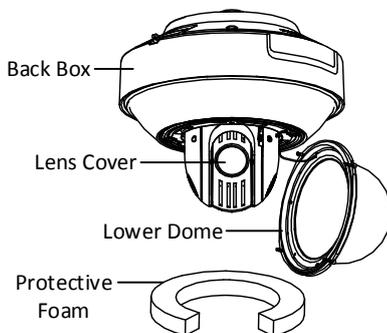

Figure 1-9 Remove the Lower Camera
1. Loosen the two lock screws on the both side of the camera. Pull the lower camera to separate it from the back box as shown in Figure 1-9.